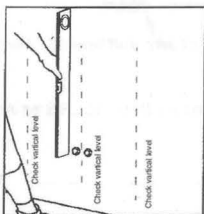
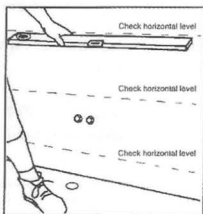

Fig.1
Fig.2
2. Check that wall is level and plumb both vertically and horizontally (fig.1 and fig.2). If your wall is out of plumb, or is not flat, you will need to pack your vanity so as not to follow the wall. **Your vanity must be level**, otherwise it will twist and your doors and drawers will be out of alignment.